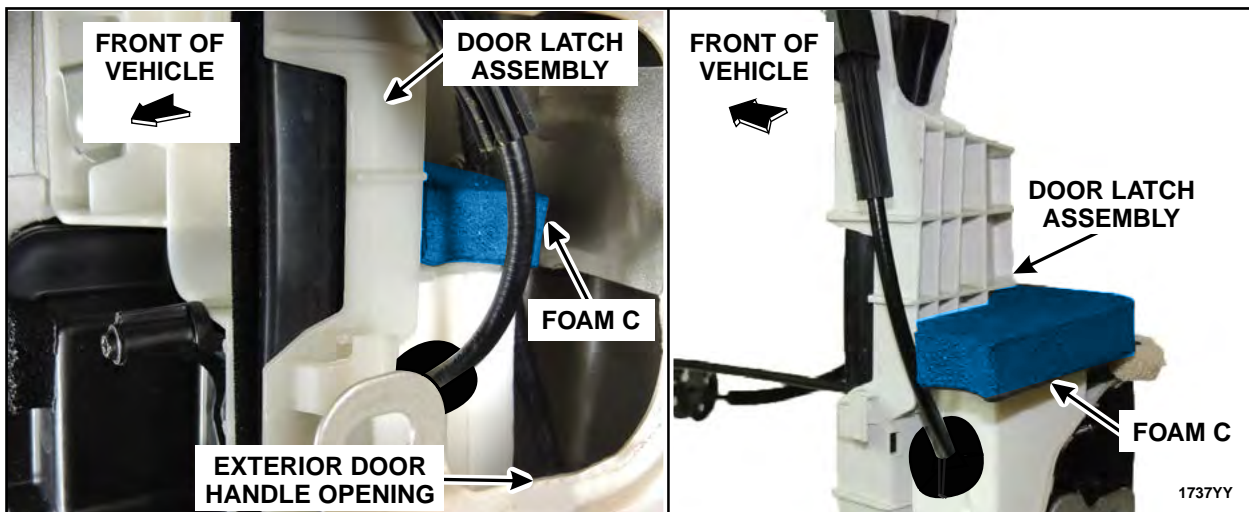

FIGURE 33
4. Using a trim tool, install Foam C onto the top of the front door latch water shield. See Figure 33.